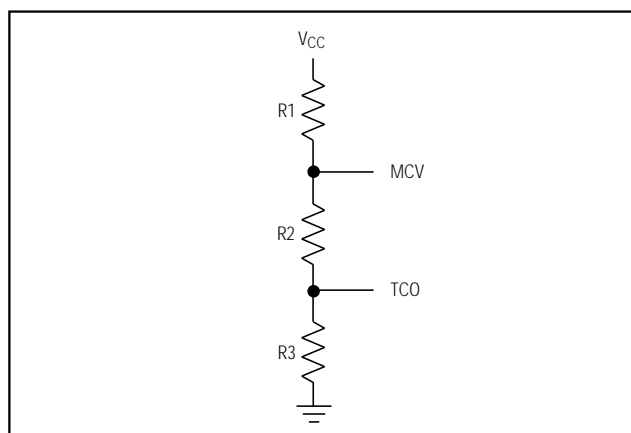
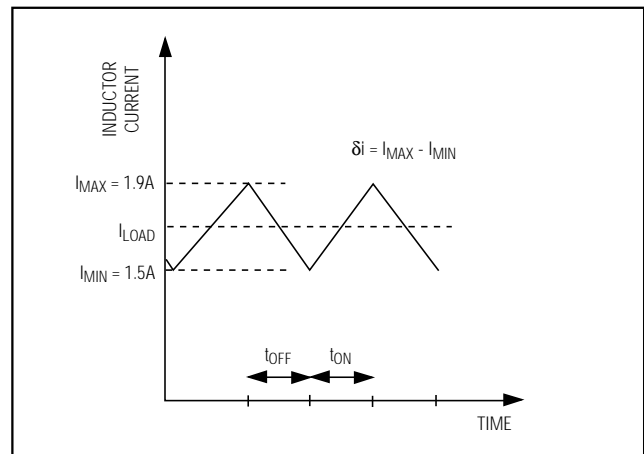

Figure 9. Resistor Configuration for MCV and TCO
Figure 10. Inductor-Current Waveform in Continuous-Conduction Mode
7) Select Maximum Cell Voltage (MCV) and Temperature Cutoff (TCO). The MCV and TCO can be selected with a resistor-divider combination (Figure 9). In our example, TCO has been set to $+10^\circ\text{C}$, which corresponds to a voltage of 1.72V at the TS pin. The MCV for most fast-charge batteries can be set to about 1.9V . To minimize the current load on V_{CC} , choose $R1$ in the range of $20\text{k}\Omega$ to $200\text{k}\Omega$. In this example, choose $R1 = 60.4\text{k}\Omega$, then calculate $R3$ and $R2$ as follows:
In order to provide high currents with minimum ripple, the device must function in the continuous-conduction mode. Figure 10 shows a current waveform of an inductor in the continuous-conduction mode (where the coil current never falls to zero).
The average load current (I_{LOAD}) through the inductor must be 1.7A, so a peak current (I_{MAX}) of 1.9A should give a fairly low ripple while keeping the inductor size minimal. This means that the total current change (Figure 10) across the inductor is $\delta i = 2 (1.9 - 1.7) = 0.4A$.
The MAX2003/MAX2003A can use several other circuits to charge batteries. Figure 9 shows a circuit that uses a Darlington transistor to regulate the current a six-cell NiCd battery pack receives. Figure 10 shows a gated current-limited supply being used to charge a Duracell NiMH battery pack. Table 6 lists the external components used in these two application configurations.